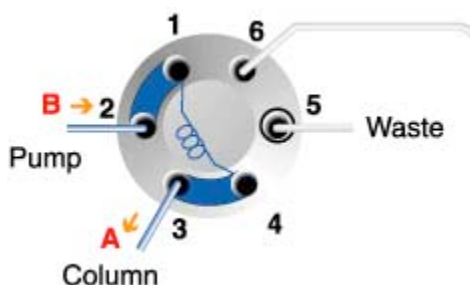

Figure 39. Flow diagram of the injector in the INJECT position.
- If the pressure remains high in either the LOAD or INJECT position, locate the blockage, with the handle in the INJECT position, by observing the pressure under the following conditions. Note Figure 39 and Figure 40.
- Disconnect the column connecting tube at port #3 (A). If pressure returns to normal — about zero psi, depending on the flow rate, connecting tubing, and sample loop — see Cause B, otherwise,
- Disconnect the pump connecting tube at port #2 (B). If pressure remains high see Cause C, otherwise,